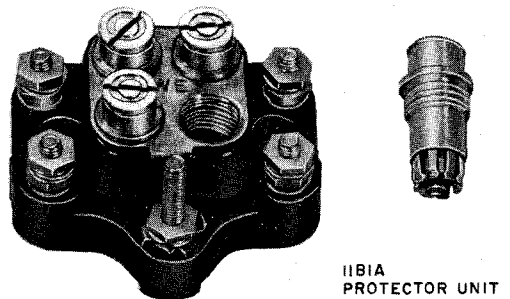

Fig. 8—128E1A-2 Protector
3.07 The 128E1A-2 protector (Fig. 8) provides protection for two pairs of wires. It consists of a nonconductive base containing five binding posts and four 11B1A protector units. The bottom left and right binding posts are tip and ring for the first line, and the top left and right binding posts are tip and ring for the second line. The two bottom 11B1A protector units protect the first line and the two 11B1A protector units protect the second line. The center binding post is the ground terminal. The 128E1A-2 protector should be grounded with a No. 12 ground wire (Table B) and may be used anywhere the 128A1A-2 protector is used.